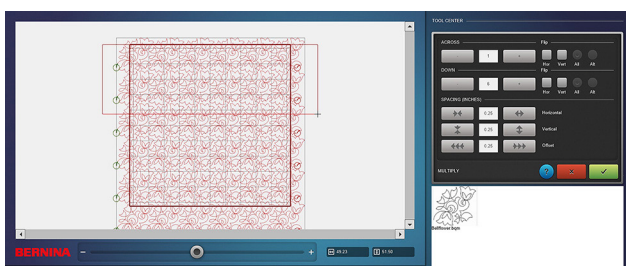

Fig. 50
10. Under DOWN, add additional rows to fill the quilt grid. In this example, a total of 6 rows were used (Fig. 50). Adjust the position of the layout so that it fits over all sides of the grid.